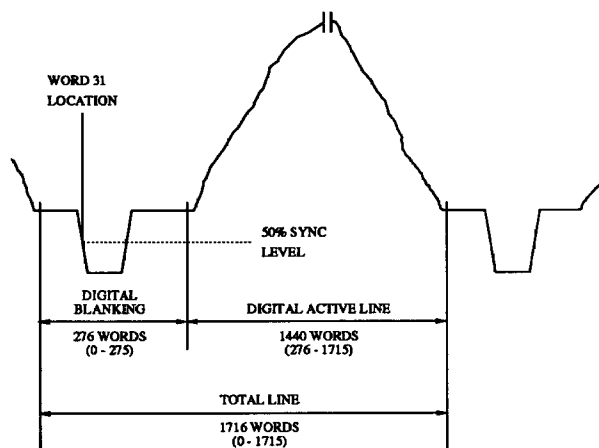

Figure 2. 525-Line, 60 Field/Sec. Horizontal Sync Relationship.
The Bt291 inputs horizontal blanking (H), vertical blanking (V), and even/odd frame (F) timing information. H, V, and F are latched on the rising edge of CLOCK while CLOCK/2 is a logical one and pipelined to maintain synchronization with the RGB data inputs. All changes in state of the V and F inputs must occur with a change of state in H. (Refer to Figures 2–7.)